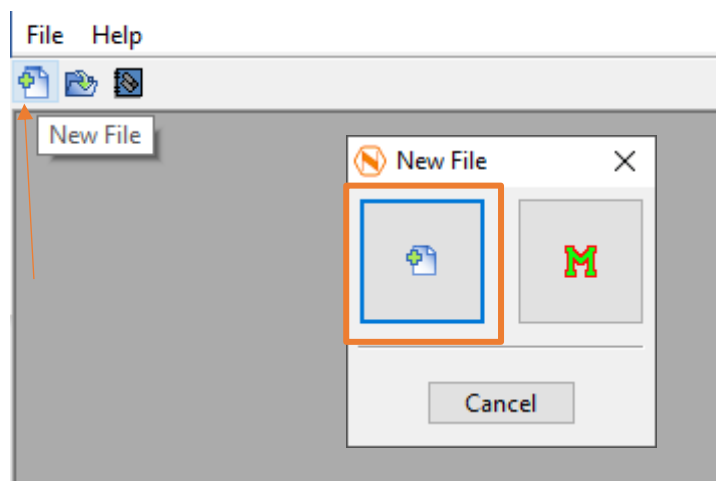

Figure 407
2. Open NestKing and click  (New File) on the top (Figure 407).